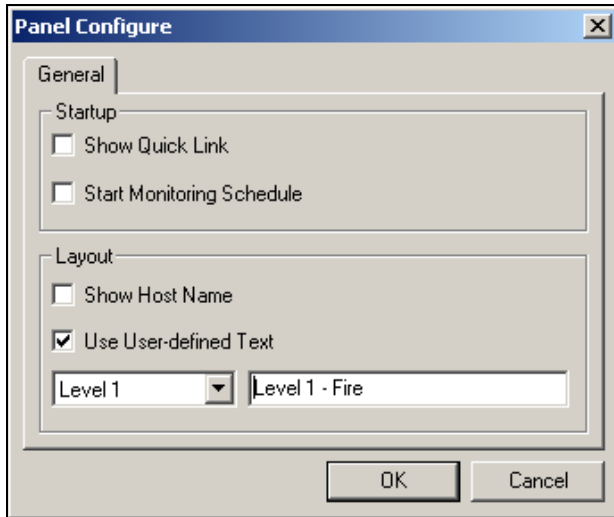

Figure 6-19
- To set the Quick Link window at panel startup, see the **Show Quick Link** option in Figure 6-19.